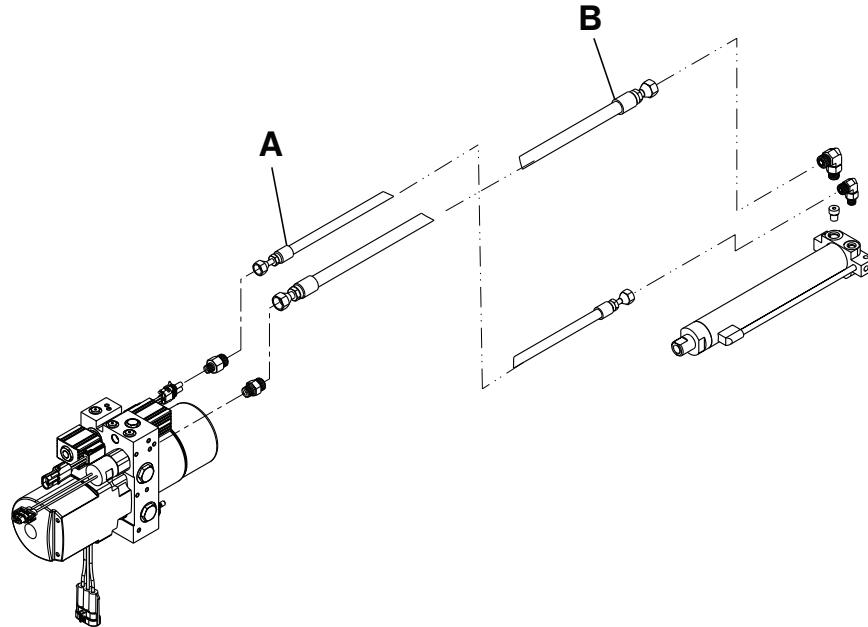

Figure 14 – Hydraulic hose replacement
3. Using a 11/16" combination wrench and a 13/16" combination wrench, remove the hydraulic hose (A or B) (Figure 14). Discard the hose.